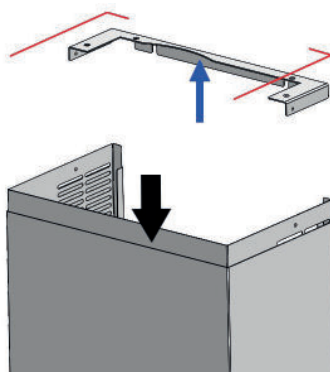

Fig.10
- › Lower the entire chimney and position fixing bracket in line with the marking made (Fig.10).